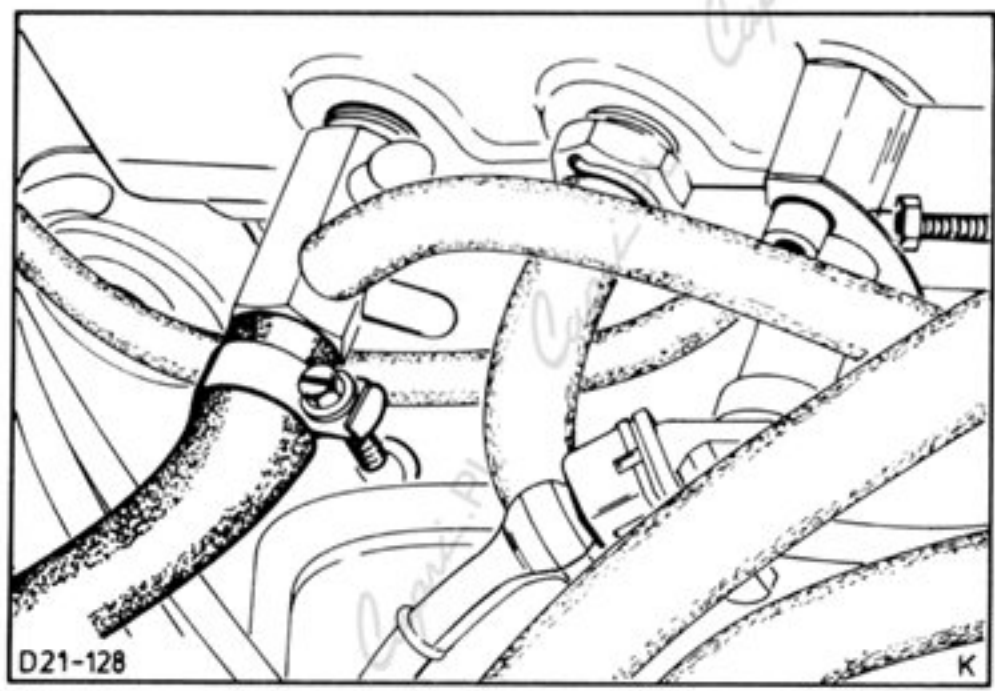

Fig.7. Brake servo vacuum hose.
6. Disconnect the brake servo vacuum hose from the air chamber connection, Fig.7.